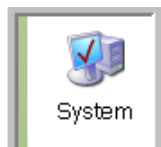

FIG. 221
2. Click on the System Icon (FIG. 221).
3. Click on the System Icon (FIG. 221).